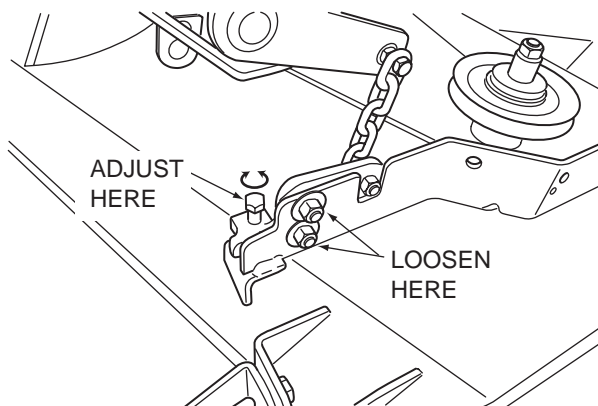

Figure 6-5. Cutter Deck Level Adjustment
1. On the front LH side of the cutter deck locate the cutter deck level adjusting bracket. See Figure 6-5.